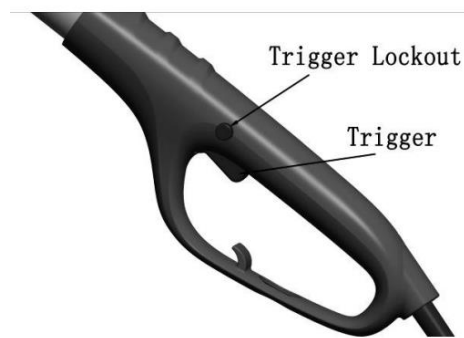

Figure 9
- When you are ready to make a cut, depress the trigger lock and pull the trigger (see Figure 9). This will activate the pole saw. Releasing the trigger will switch the pole saw off. Make sure the saw is running before starting a cut